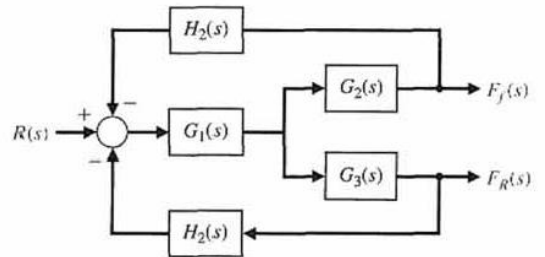

FIGURE E2.9 Brake control system.
4. A four-wheel antilock automobile braking system uses electronic feedback to control automatically the brake force on each wheel. A block diagram model of a brake control system is shown in Figure E2.9, where $F_f(s)$ and $F_r(s)$ are the braking force of the front and rear wheels, respectively, and $R(s)$ is the desired automobile response on an icy road. Find $F_f(s)/R(s)$.